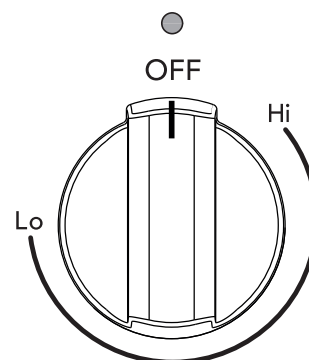

Figure 11: Keep warm knob
1. Push in the knob and turn in either direction (see Figure 11). The temperatures are designated by hi and lo. However, the control can be set at any position between hi and lo for different levels of warming.